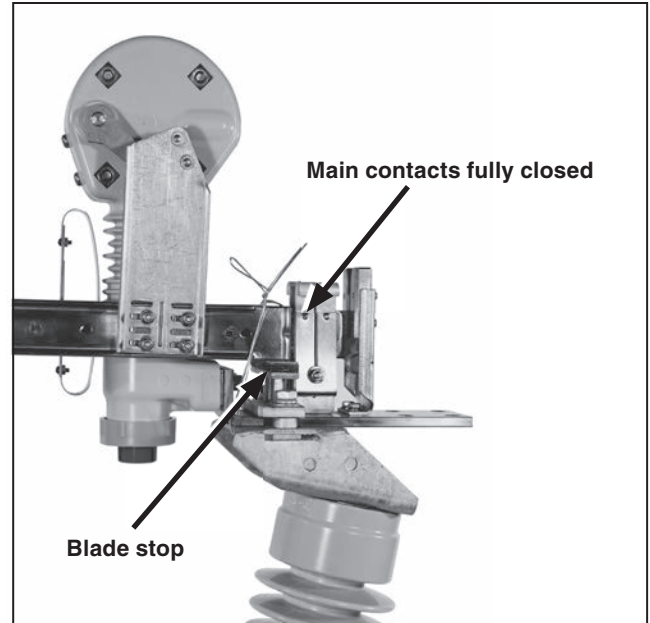

Figure 23. Checking that the blade is fully closed.
- (a) With the operating handle as far as it will go in the closing direction, all main contacts of the interrupter switch are fully closed with the blades against their blade stops. See Figure 23.